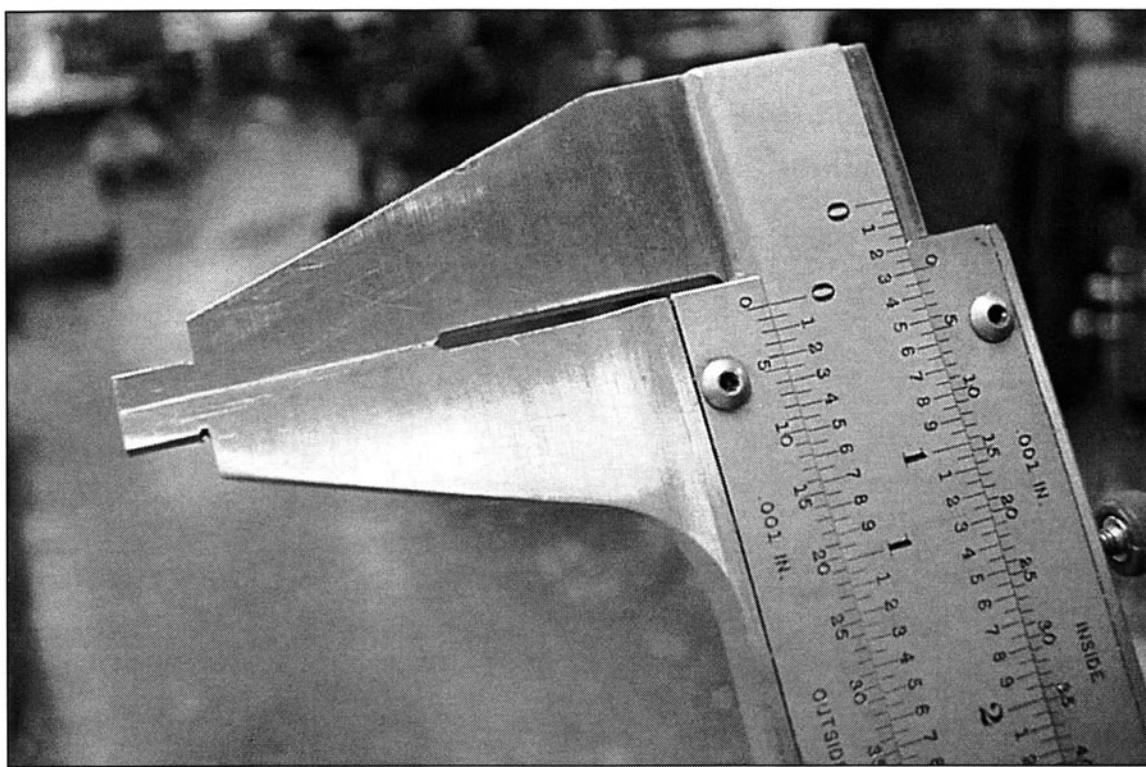

FIGURE 5-9 With large vernier calipers you must remember to read the proper scale depending on whether you're measuring an inside or outside dimension.
28. *When taking inside measurements with large vernier calipers, be sure to read the correct scale. (See Fig. 5-9)*